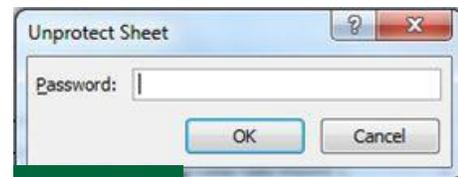

Figure 15
2. When prompted for a password (Figure 15), enter the default password “**CSAMXX**,” where XX is the two-digit serial number of the unit.